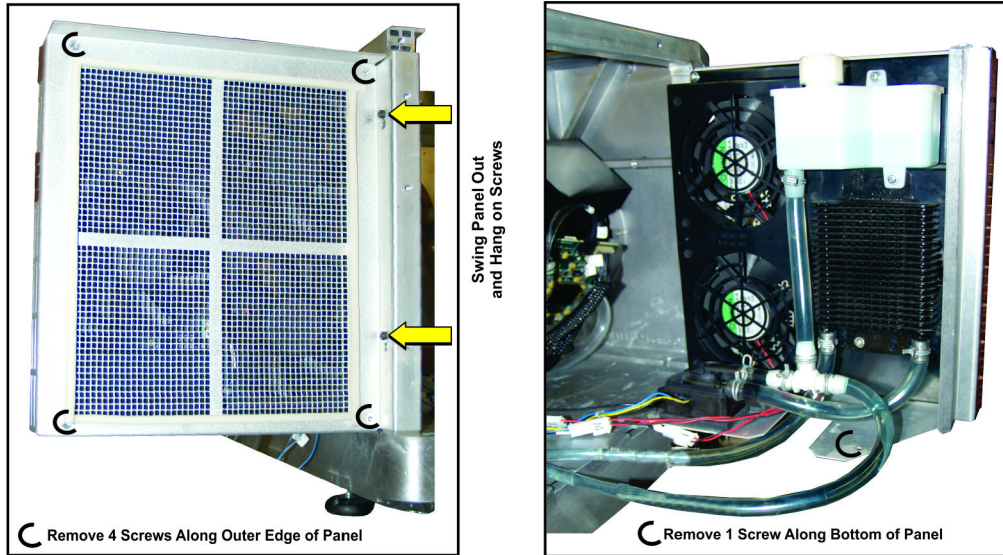

Figure 14 Liquid Cooling Panel Overview
- Remove the 5 screws securing the liquid cooling panel. Four of these screws are on the panel and one is located along the bottom of the panel (**Figure 14**). Swing the panel out and hang it on the screws located on the frame.